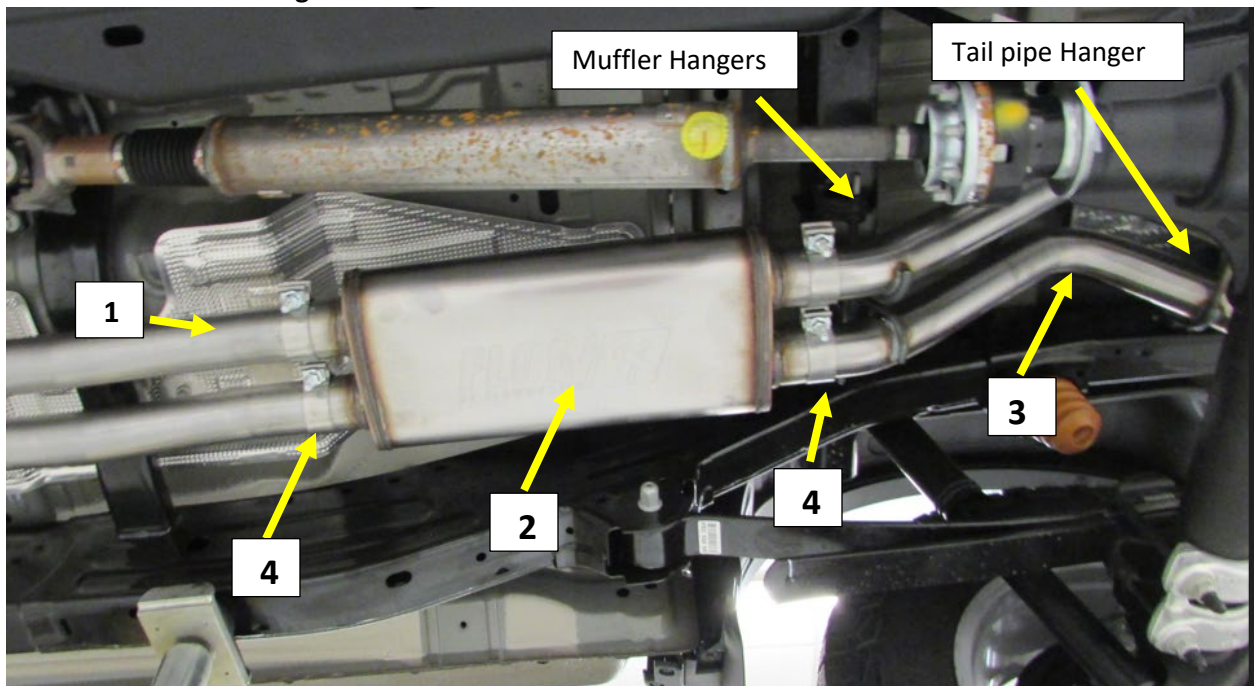

Figure.6
8. Install a 2.5" band clamp (4) on to the each of the muffler inlet pipes (2). **Fig.6**
9. Install the muffler (2) on to the Inlet Pipe (1) approximately 2.5" with the weld seam towards the drive shaft. Tighten the clamps enough to hold the muffler in place and allow for adjustment. **Fig.6**
10. Install a 2.5" band clamp (4) on to the each of the muffler outlet pipes. **Fig.6**
11. Install the tail pipe assembly (3) over the axle and into the muffler, Install the muffler hangers into the isolators. **Fig.6 / 7**